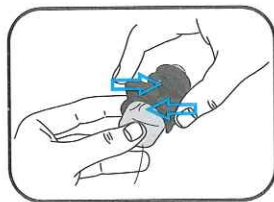

Figure-06
- Once the balloon is secured with the Blue O-Ring, squeeze Balloon Clamp around Balloon Adapter to secure balloon and prevent vapor loss (Figure-06).